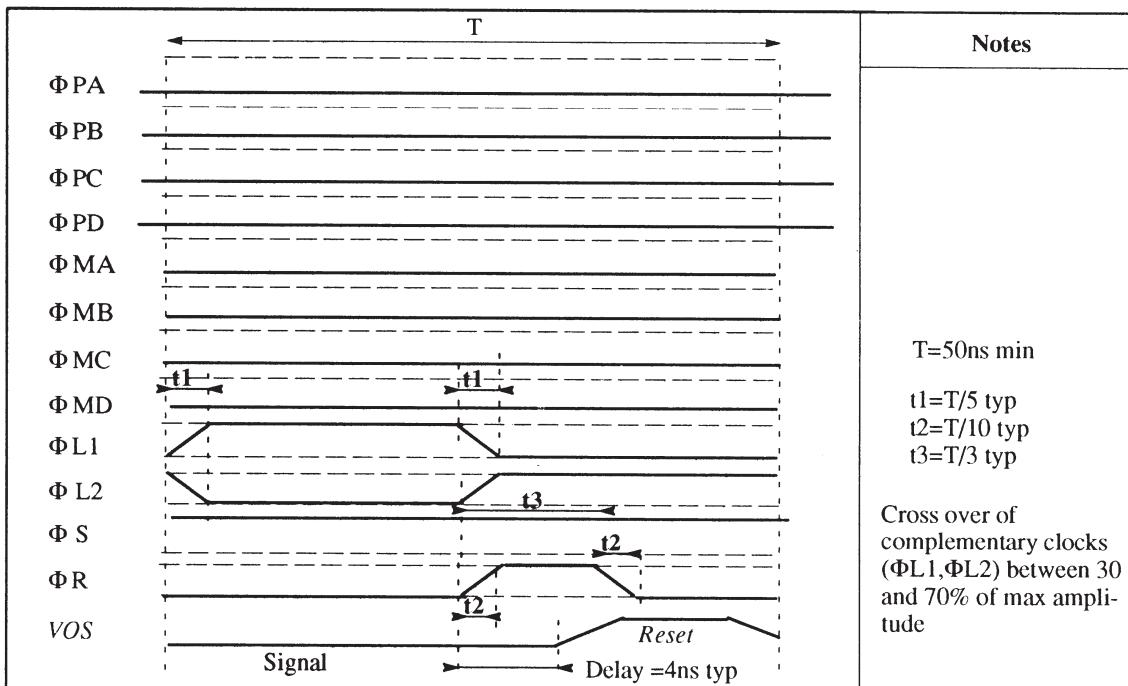

Figure 10: Horizontal pixel summation on Φ_S gate (two adjacent pixel summation)
- $vs = \text{number of horizontal summation}$ ($hs=0$ to sum 2 pixels in the ΦS gate, only add one line the timing diagram of figure 10)
- $vnb = \text{number of horizontal summation}$ ($hs=0$ to sum 2 pixels in the ΦS gate, only add one line the timing diagram of figure 10)